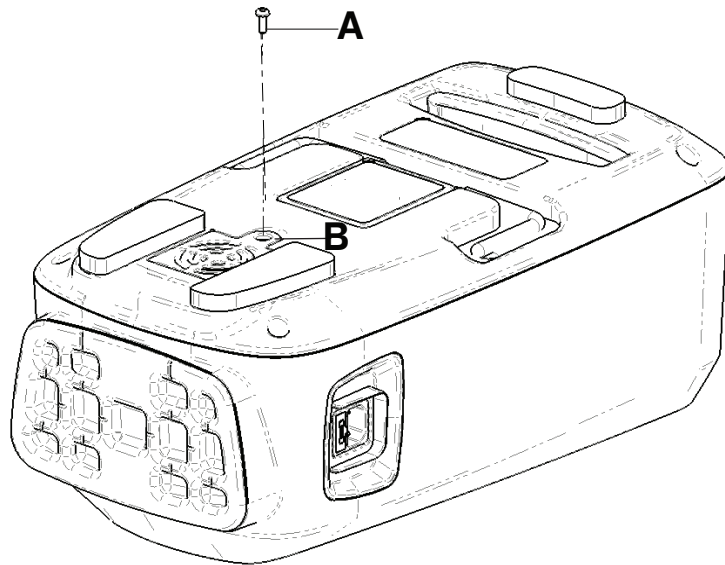

Figure 7 – Back cover
4. Using a T20 Torx driver, remove the screw (A) that secures the filter access door (B) to the back cover (Figure 7). Discard the screw.